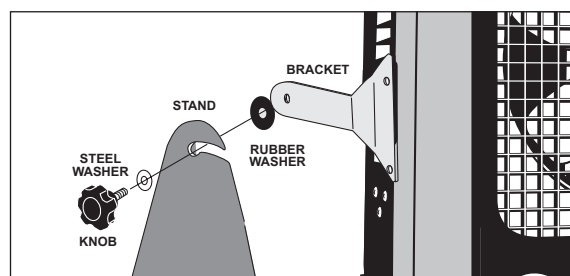

Figure 4
3. Install heater on stand and reassemble knobs, washers, stand and bracket according to Figure 4.